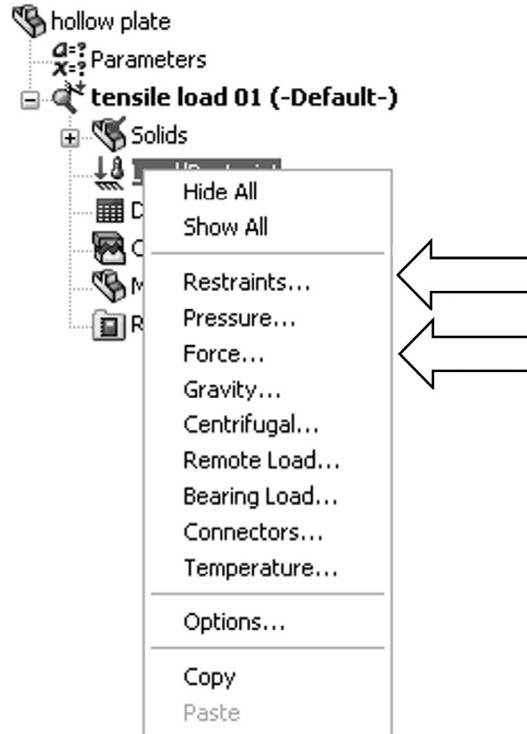
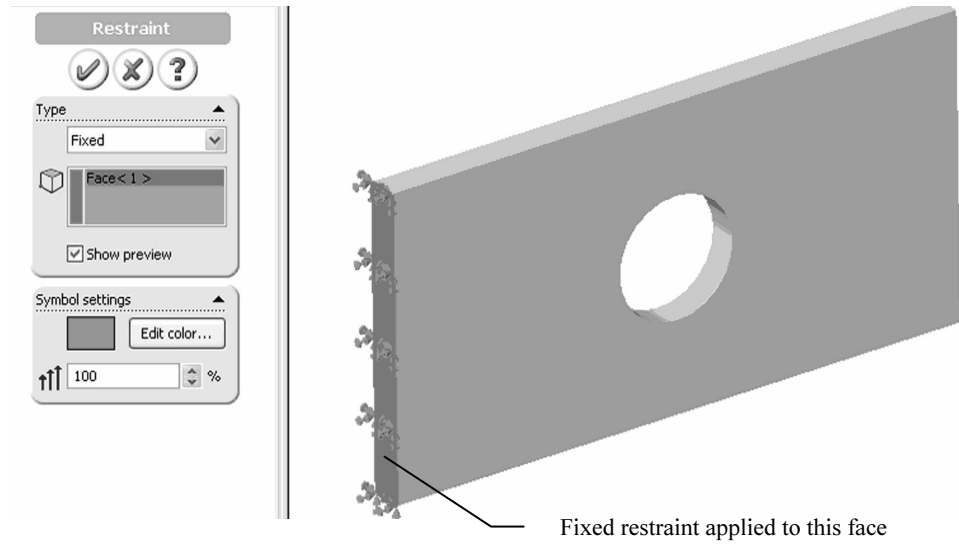
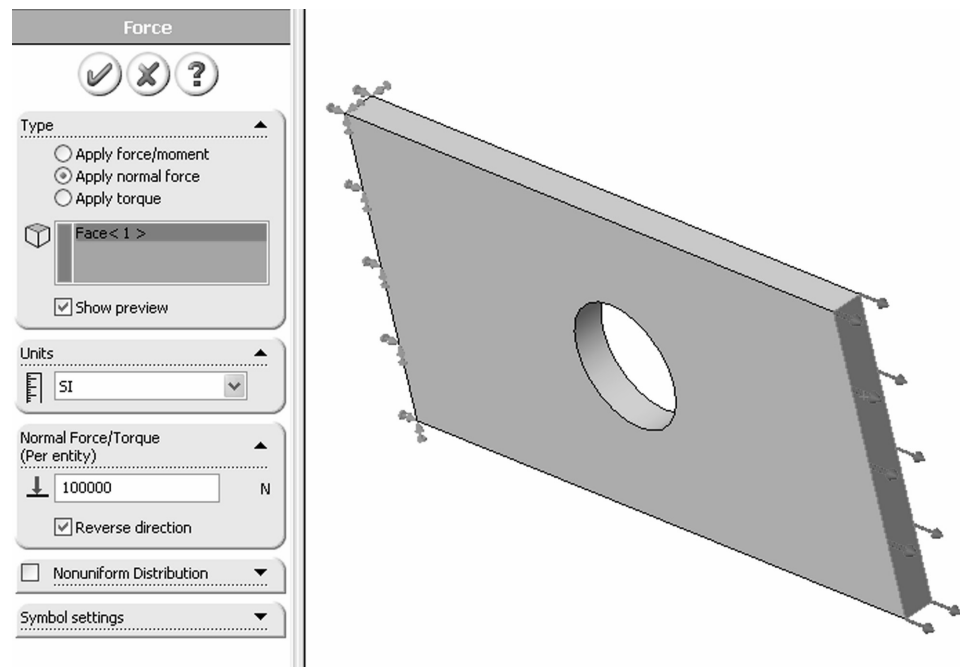

Figure 2-9: Pop-up menu for the *Load/Restraint* folder
Figure 2-10: Restraint window
Figure 2-11: Force window
Having defined the material, we now move to defining the loads and restraints. To display the pop-up menu that lists the options available for defining loads and restraints, right-click the *Load/Restraint* folder in the *tensile load 01* study (figure 2-9).
To define the restraints, select **Restraints...** from the pop-up menu displayed in figure 2-9. This action opens the **Restraint** window shown in figure 2-10.
- ❑ Using the **Hide All** or **Show All** commands in the pop-up menu shown in figure 2-9, or
We now define the load by selecting **Force** from the pop-up menu shown in figure 2-9. This action opens the **Force** window, (figure 2-11).
In the Type area, select the **Apply normal force** button in order to load the model with 100,000 N tensile force uniformly distributed over the end face, as shown in figure 2-11. Check **Reverse direction** option to apply a tensile load.